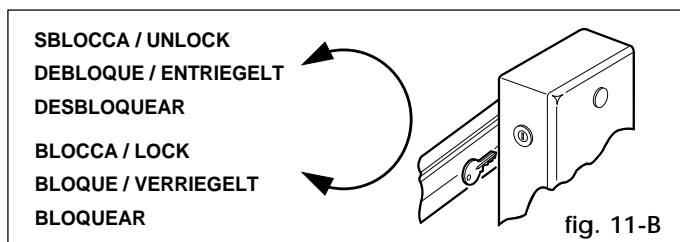

fig. 11-B
- Insert the standard key (fig. 11-A) or the personalised key (fig. 11-B) in the lock and **turn anticlockwise** by one revolution.